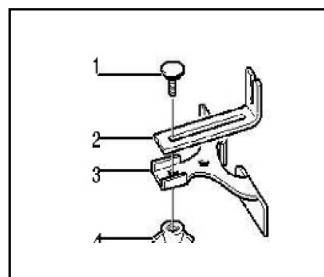

Fig. 13
1. Attach the guide plate on the straight guide with the bolt and the wing nut. (Fig. 13)